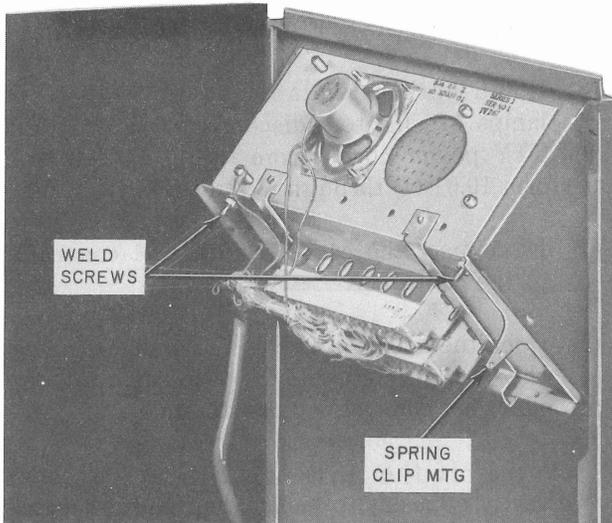

Fig. 6—DAS 804R2 in 37 ASR TTY
- (1) Loosen the two screws on the loudspeaker which connect the YEL-BL and YEL-OR conductors to the loudspeaker. Remove spade tips from the loudspeaker.
- (2) Remove the two mounting nuts which hold DAS 804-type to the door (Fig. 6, 7, and 8).
- (3) Remove the four screws which hold the loudspeaker to the mounting plate assembly.
- (4) Remove loudspeaker.
- (5) Reverse the procedure for the loudspeaker to be installed.
9. DATA AUXILIARY SET 804R-TYPE (ATTENDANT SET) REMOVAL (FIG. 6, 7, 8, and 9)